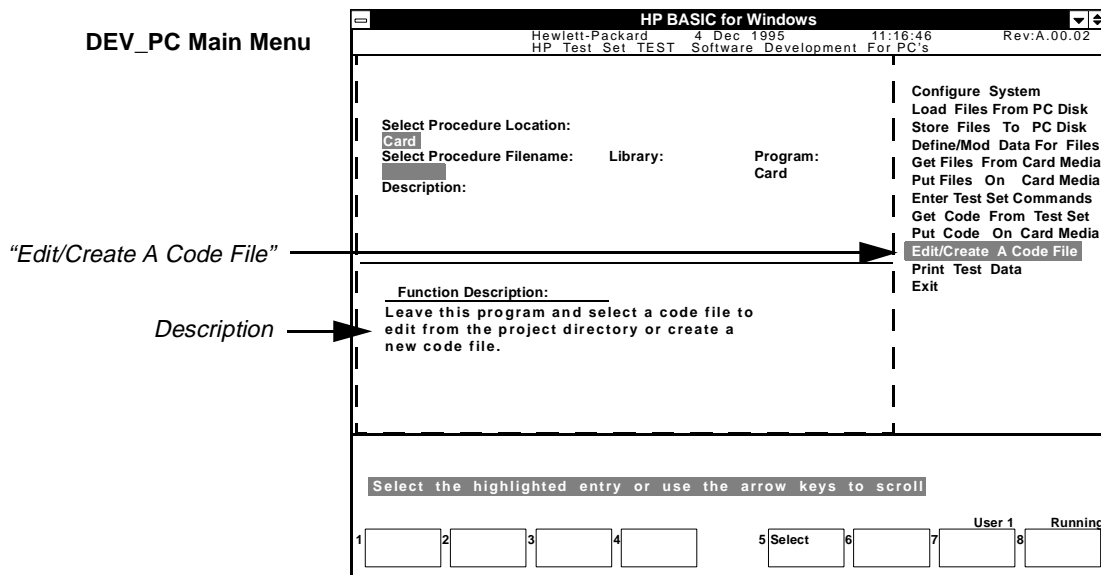

Figure 5 Edit/Create A Code File Function
1. Use the keyboard's up/down arrow keys to select **Edit/Create A Code File** function on the DEV\_PC main menu (see figure 5, "Edit/Create A Code File Function"). Notice the "Function Description" describes each function as you move the selection bar.